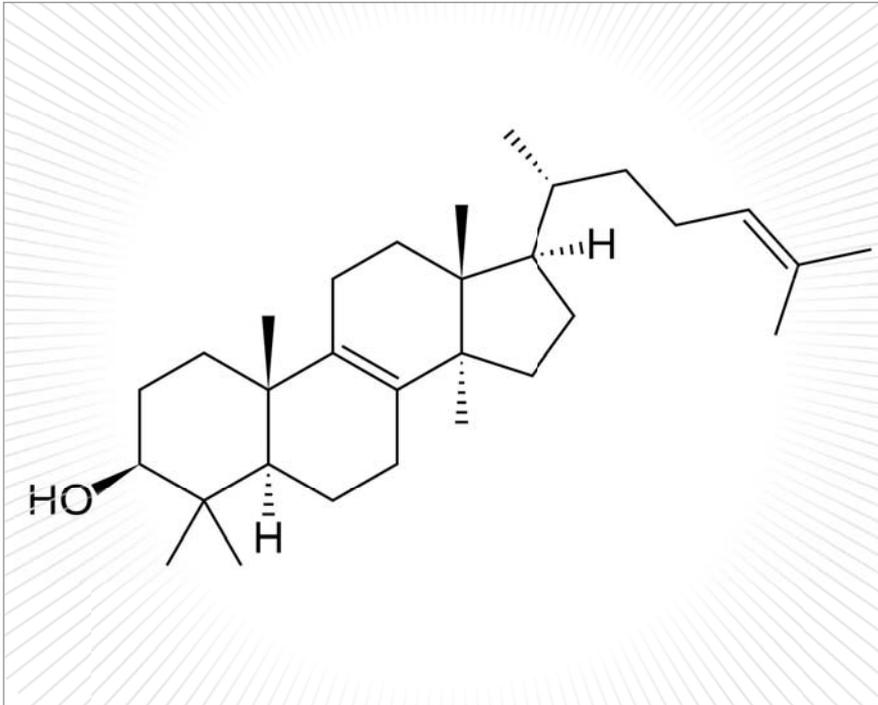

Figure 1. Lanosterol, the steroid that Zhao et al. (5) claim can dissolve the crystallin aggregates that can cloud the crystalline lens.
Kang Zhang is both a physician and a genetics researcher, so when two young children with cataracts walked into his clinic, he was able to do something most physicians couldn't – sequence their genomes (5). When he did, he found mutations in the gene that encodes lanosterol synthase (LSS). Since little was known about the role of lanosterol (Figure 1) in the eye, he and his team performed tissue culture experiments in a number of cell lines that expressed “six known cataract-causing mutant crystallin proteins” – which resulted in collections of misfolded proteins called aggregates. The application of lanosterol (or the co-expression of wild-type LSS) went a long way to dissolving the protein aggregates and rescuing the